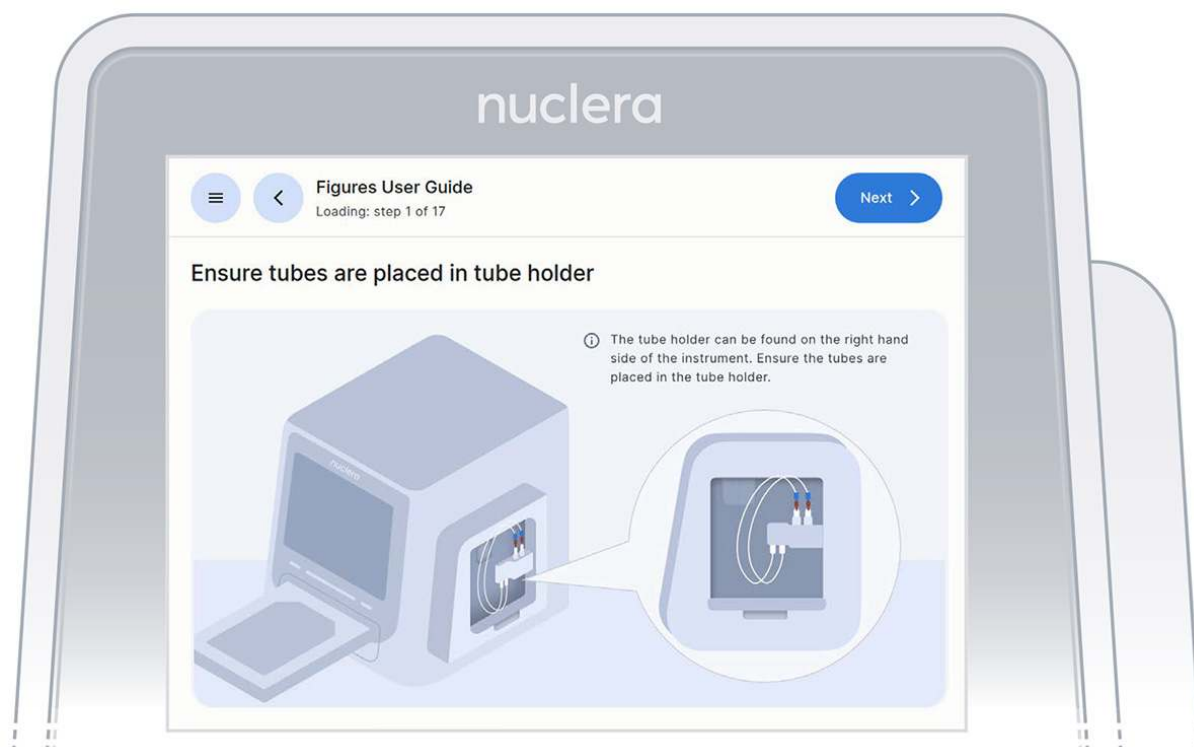

Figure 13: Loading of the cartridge on the eProtein Discovery instrument
1. On the right hand side of the instrument, ensure the tubings for the integrated pump are placed in the tubing holder, and press the [Next] button (Figure 13).